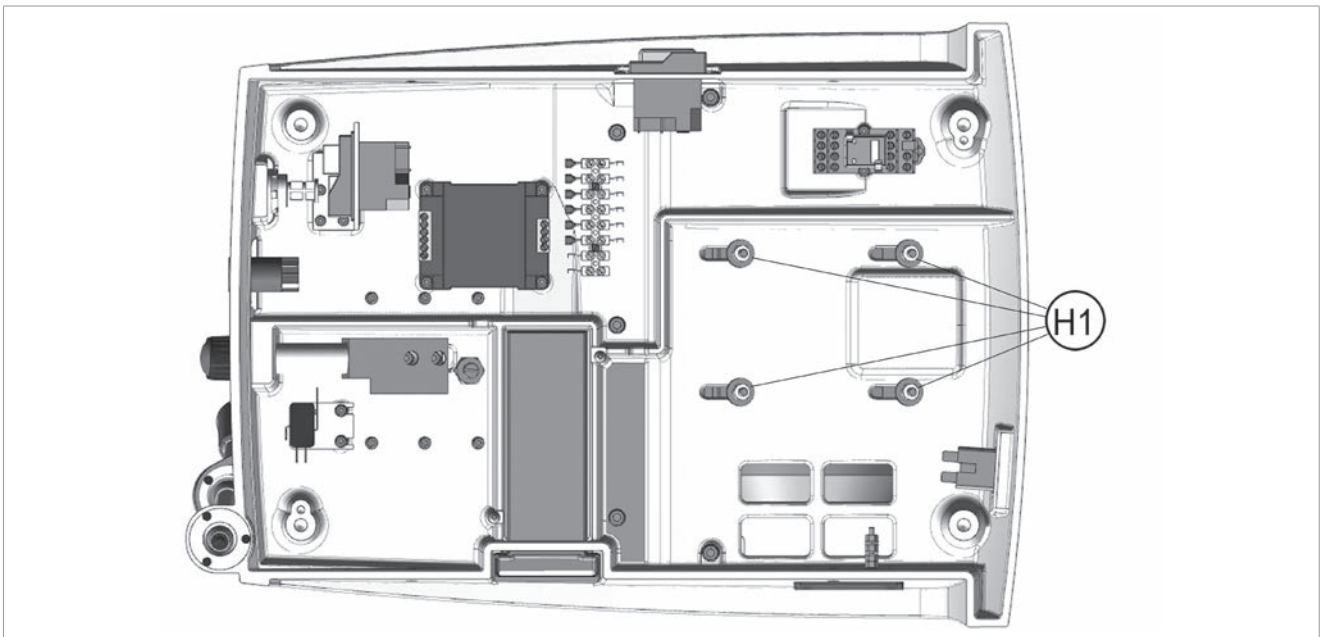

Fig.83
- 4) Loosen the 4 nuts (H1) (Fig.83), push the motor towards the back of the machine and then tighten the 4 nuts (H1).
- 9) Loosen and remove the 4 nuts (H1) fixing the motor (Fig.83). **TAKE CARE not to drop the motor.**